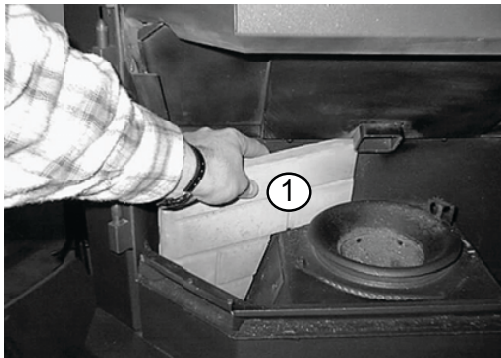

Figure 21.1
2. Slide bottom of left rear brick in first; rotate top edge toward rear of appliance and then rotate outer edge toward rear of appliance, until brick slides into place. **Figure 21.1**.